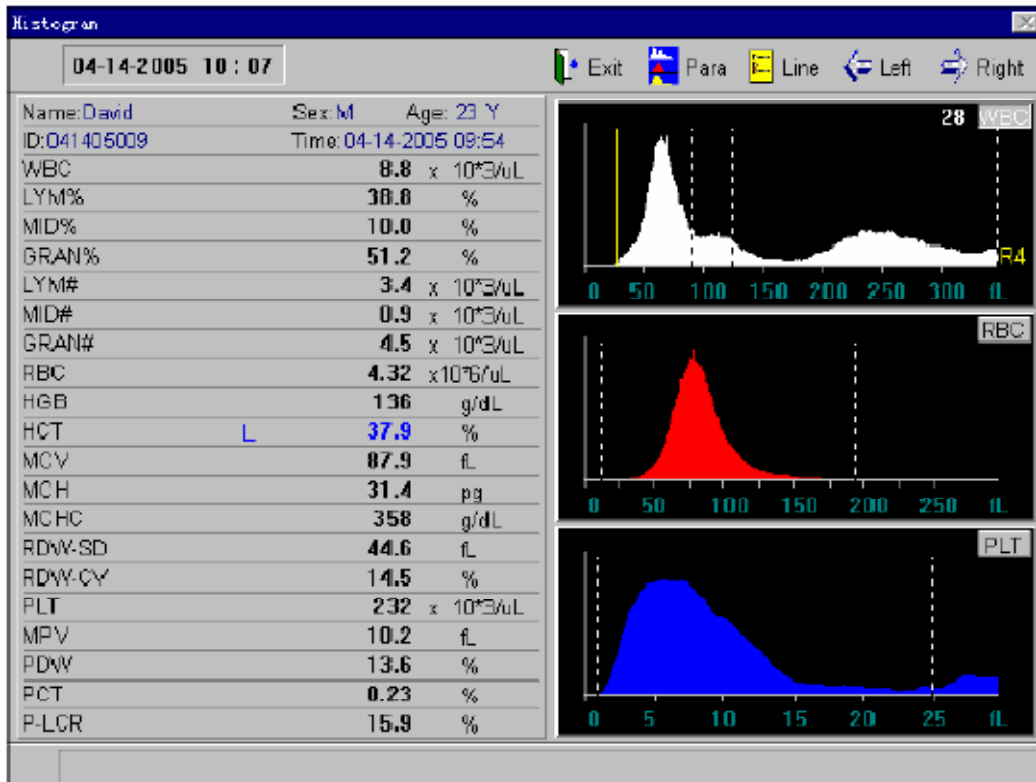

Figure 3-2
- a) In the blood cell analyzer window, select "Histogram" in menu. The instrument accesses histogram adjustment window, as shown in figure 3-2. Press "**Para**" button to adjust the histogram.